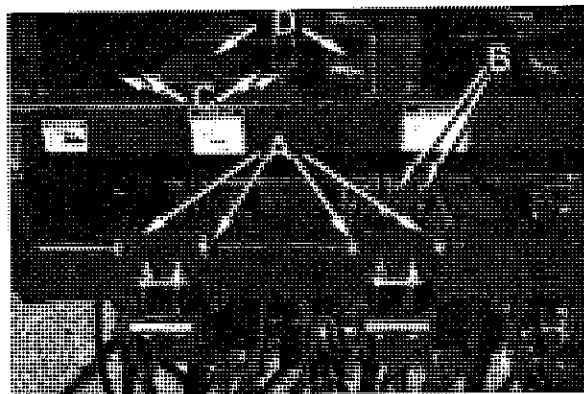

Figure 18. Row Spacing Adjustments.
Spacing Adjustments - Refer to Figure 18. Loosen strut mounting L-bolts (A); paddle bolts (B); and the bolts holding the barriers (C). Adjust the rubber covers (D) so they are centered over the row and routed over the round tube. Slide all to the proper row spacing. Tighten the bolts.